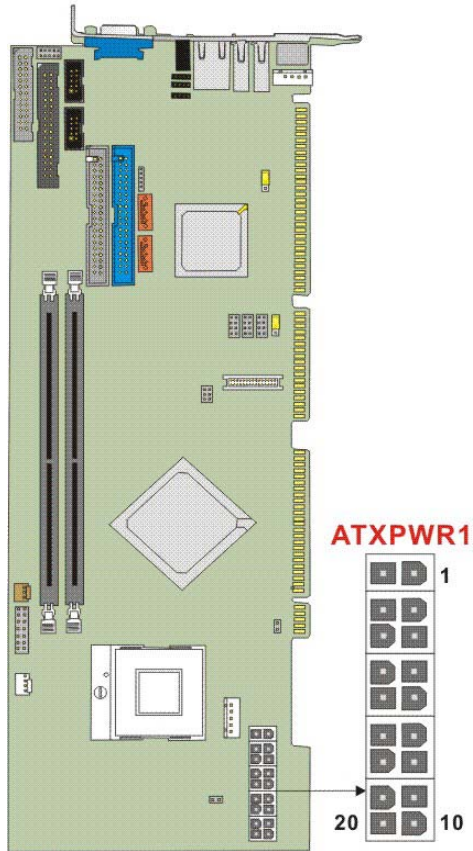

Figure 3-2: ATXPWR1 Connector Location
- CN Location:** **See Figure 3-2**